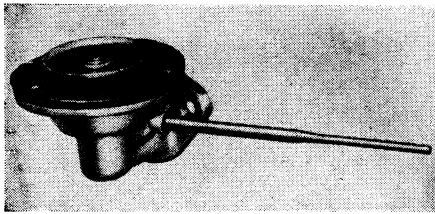

Fig. 24 Series R. Showing thick portion of assembly pin holding rocker arm and link in position
5. Push the assembly pin through, Fig. 24, so that thick portion is holding arm and link assembly in position.